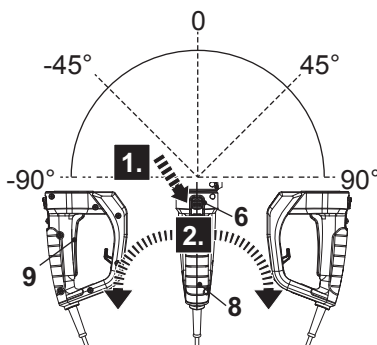

Fig. 7
1. Press down the rotary handle lock button (6) and hold it in position (Fig. 7, step 1).
2. Rotate the rear handle (8) to the left or right slightly (Fig. 7, step 2).
3. Release the rotary handle lock button (6) and keep moving the rear handle (8) until it locks in place with an audible click.